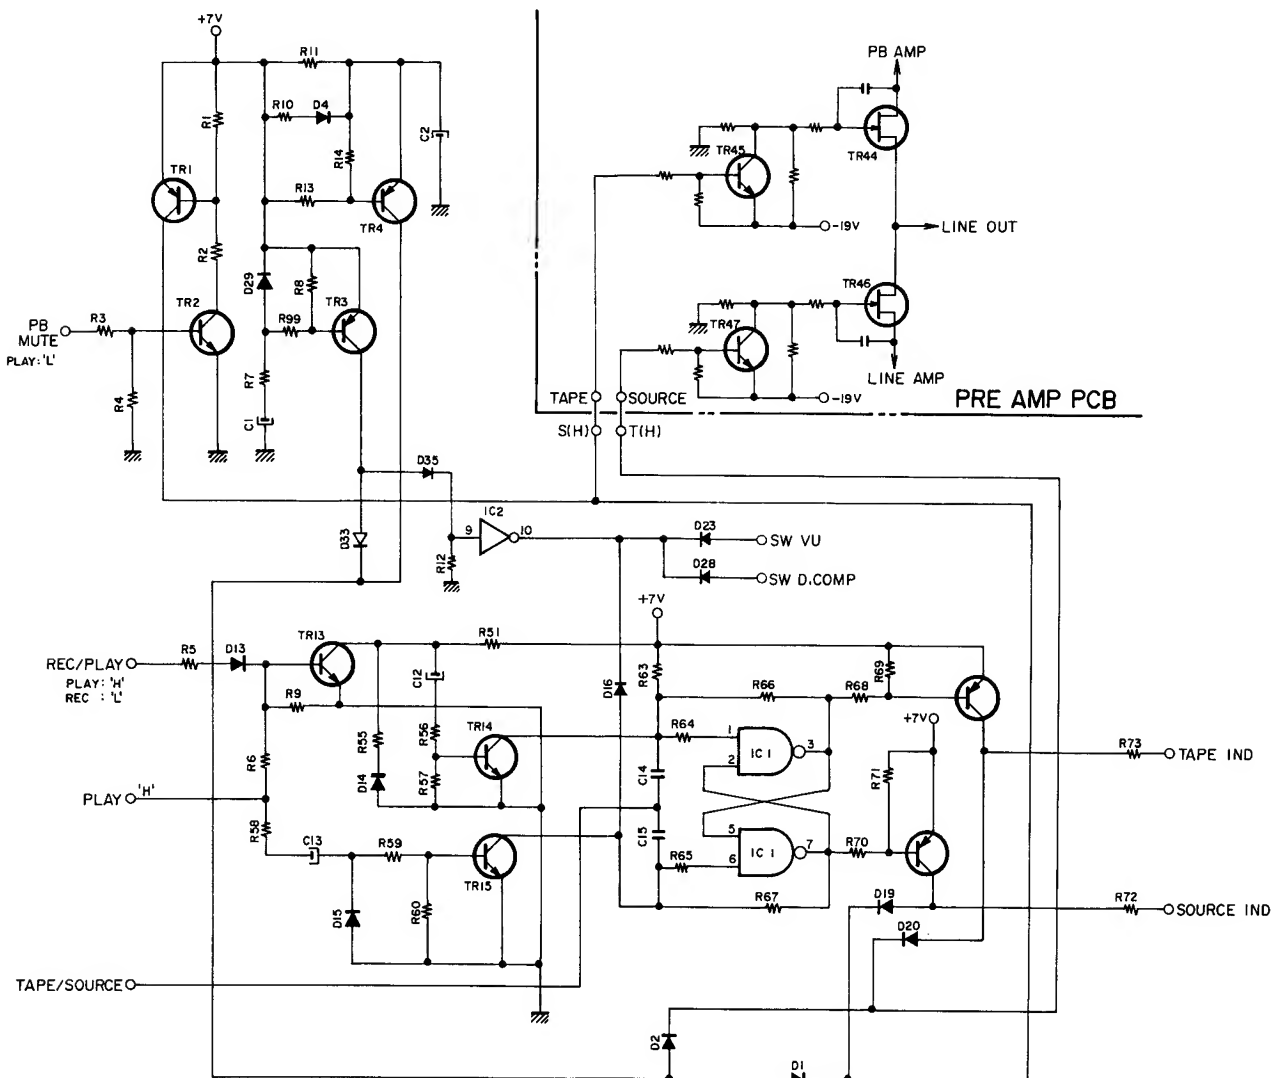

Fig. 1-18
3. TAPE/SOURCE MONITOR SWITCHING AND MUTE CIRCUITS (Refer to Fig. 1-18)